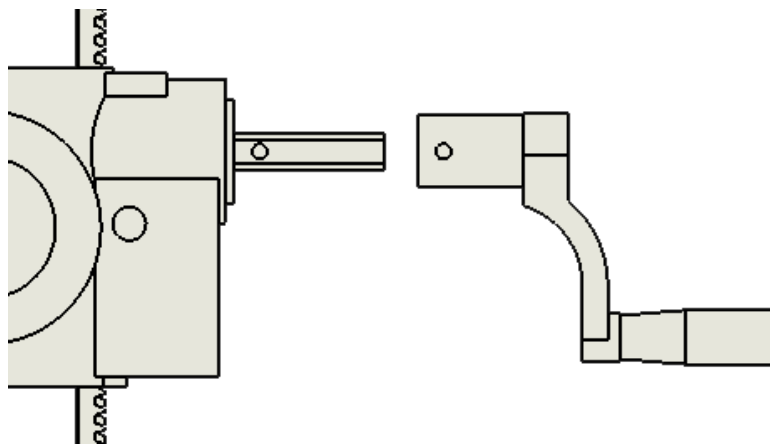

Figure 10
Step 11 Press the lift handle to the gear shaft, and then push, pull, turn the lifting handle, let the lift handle hole aligned with the lifting gear holes, can see through from one end to the other end and put the spring pin, hit into the hole, make the outer end is flush with the lifting handle shaft. Figure 10